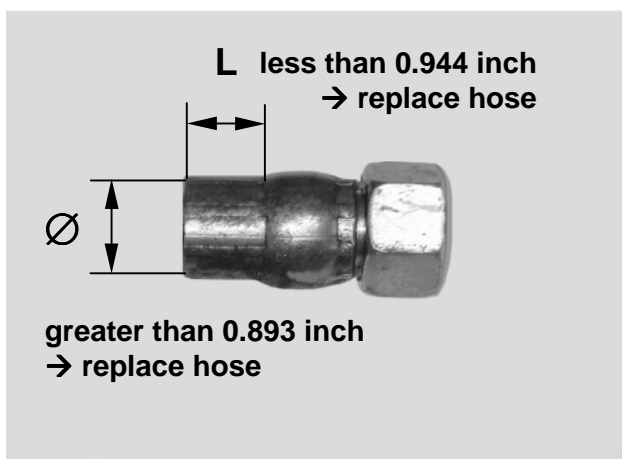

Figure 4: Hoses with fittings having a crimp length less than 0.944 inch and/or a crimp diameter greater than 0.893 inch should no longer be used
1. a fitting with a crimp length *less* than the above-mentioned value (see Figure 4) should be put out of service.